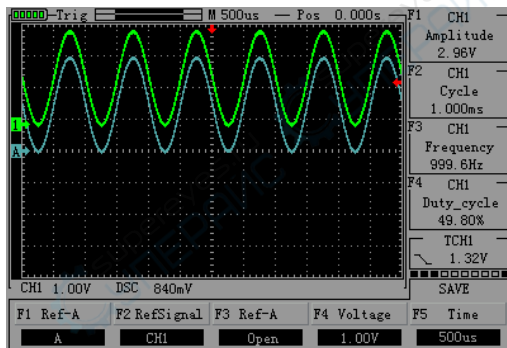

Figure 2-17
- See the reference waveform: according to the "MATH"→"F1"→"F3" open the Ref - A reference waveform, as figure 2-17